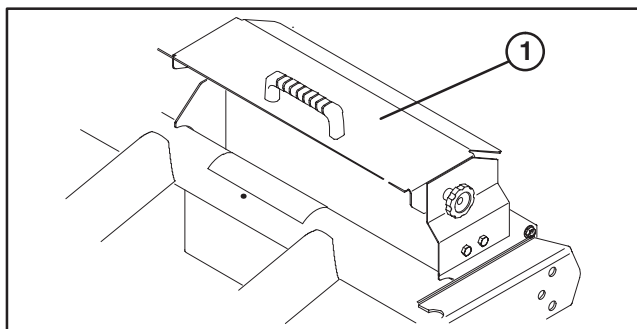

Figure 6
11. Loosen knobs securing radiator cover to radiator base and slide cover off (Fig. 6).
12. Remove (2) screws securing handle to cover and remove handle (Fig. 6).